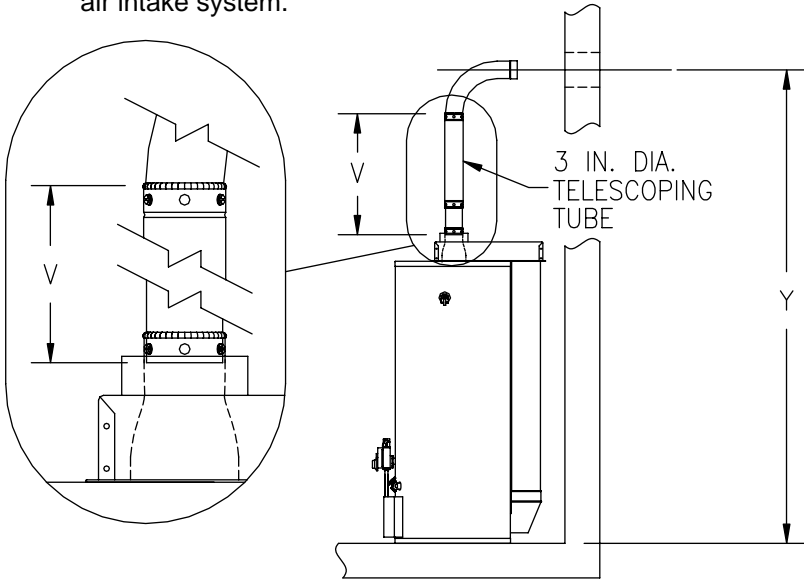

Figure 4
2. Use one of the following formulas below to calculate the required length of the three (3) inch (7.6 cm) diameter telescopic tube(s). (See Figure 4).